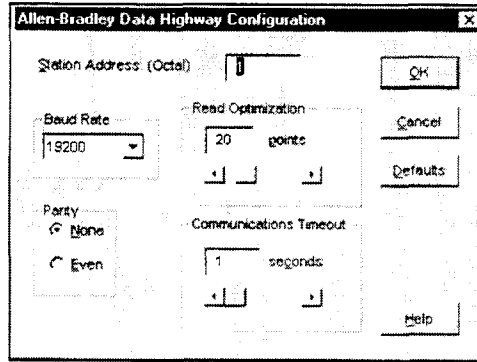

Figure 6. Allen-Bradley Data Highway Configuration Dialog Box
8. The Allen-Bradley Data Highway Configuration dialog box opens, as shown in Figure 6.